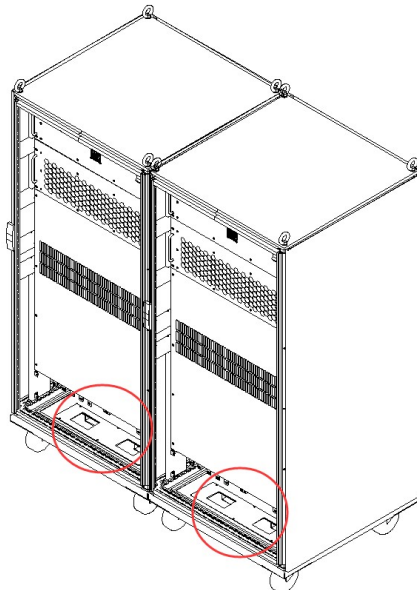

Figure 2-12 Threading holes at the bottom of the cabinet
**Step 3:** Insert the parallel input and output cables through the threading holes at the bottom of the cabinet, as shown in Figure 2-12.